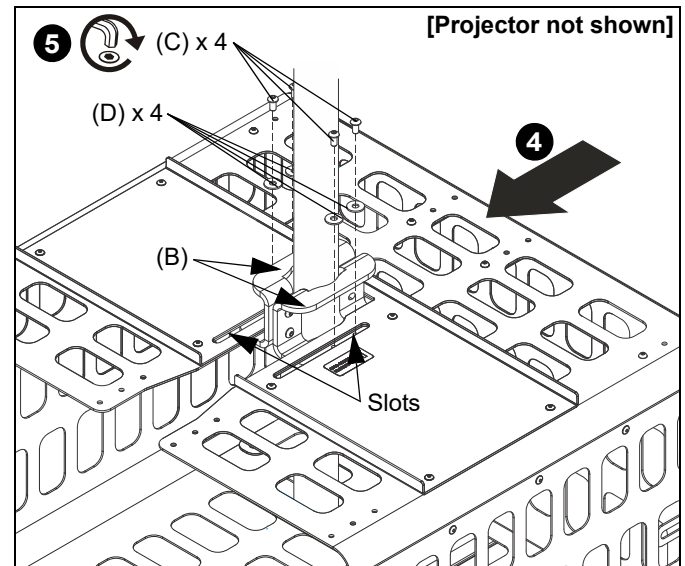

Figure 3
4. Slide the PG4A over the bottom flange of the installed clamps (B). (See Figure 3)
5. Fasten PG4A to clamps through slots in PG4A with four 1/4-20 x 1/2" button head cap screws (C) and four 1/4" washers (D). (See Figure 3)